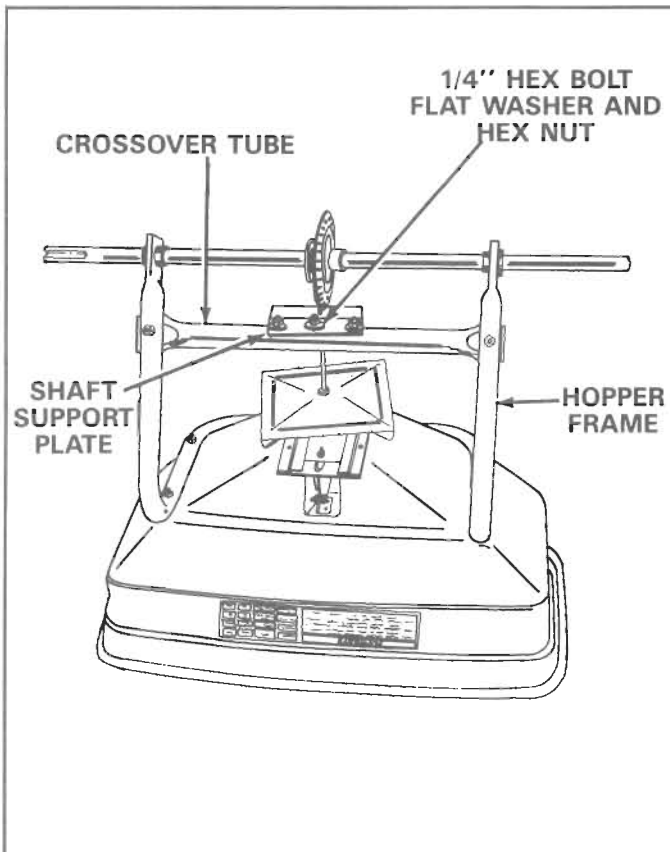

FIGURE 3
- 2. Turn the spreader upside down as shown in figure 3, so that it rests on the hopper.
- 3. Remove the 1/4" hex bolt, flat washer and hex lock nut from the center of the crossover tube and shaft support plate. See figure 3.
- 5. Place the hitch tube up against the crossover tube, align the holes in hitch tube, crossover tube and shaft support plate, assemble with 1/4" hex bolt, flat washer and 1/4" hex lock nut, removed in step 3. See figures 3 and 4. **MAKE ONLY FINGER TIGHT AT THIS TIME.**